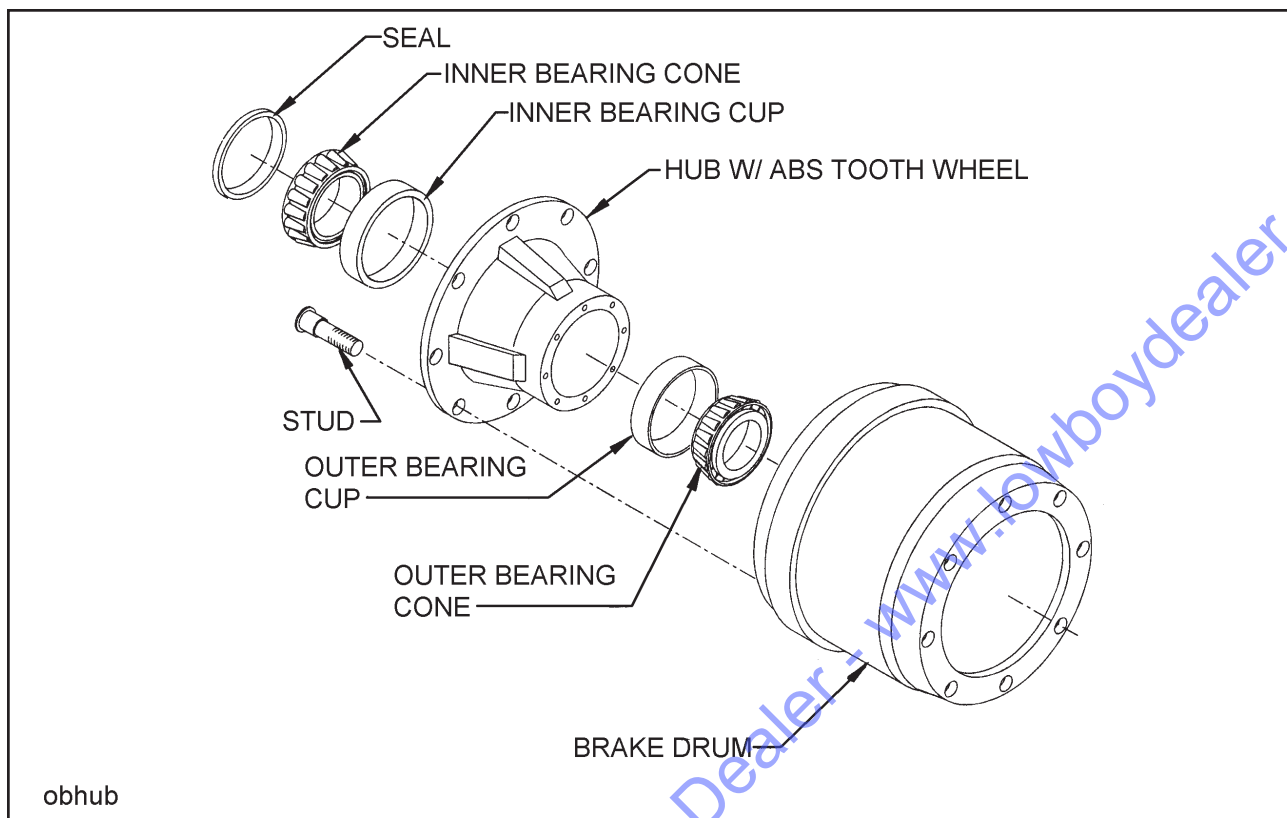

Figure 4-19 Outboard Mount Hub and Drum
4-10.4 Replace the hub and drum as follows (**See Figure 4-19**):
- a. Remove the brake drum (**See Figure 4-19**). It may be necessary to release the slack adjuster.